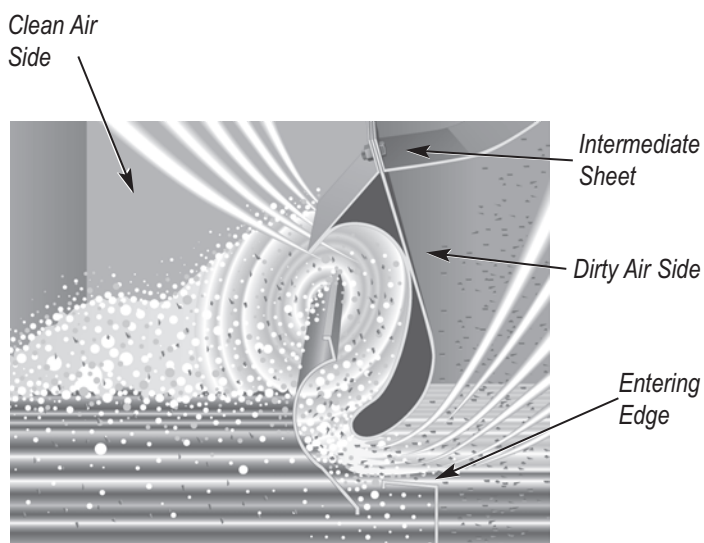

Figure 1. Cross section of Type N RotoClone Impeller.
Type N RotoClone cleans the air by the combined action of centrifugal force and a thorough intermixing of water and dust-laden air. The dust is separated from the air by means of a water curtain, created by the flow of air through a partially submerged stationary impeller (see Figure 1). Air flowing through the impeller at a high velocity conveys water with it in a very turbulent sheet. Additional water is introduced at the narrowest portion of the impeller opening through a specially designed slot in the bottom. Since there is a certain pressure drop through the impeller, the water flows upward through the slot in an attempt to reach the water level on the clean air side. This water flow upward through the slot creates increased interaction between the dust and water, thus, increased collection efficiency. Since the water flows upward in an attempt to reach the level on the clean air side of
the impeller, the impeller opening can be decreased (resulting in higher pressure drop and collection efficiency) by raising the water level in the unit. This is accomplished by means of an exclusive and patented variable water level control box. The centrifugal force exerted by rapid changes in direction of airflow causes the dust particles to penetrate the water film and become permanently trapped (Figure 1).
NOTE: This level can be checked by filling the unit with water until the level reaches the entering edge (Figure 1) of the impeller. This entering edge should be level with the water along its entire length with maximum variation of 1/8" plus or minus (see item 4.1, Operating Instructions).
- b. Set cleaning section in place so its bolting flange matches hopper flange. Lower carefully watching for interference between intermediate sheets and impellers. Walls of interior center section, formed by the two intermediate sheets must be inside impeller bolting surface (Figures 1 and 3).
- d. Impellers are bolted to intermediate sheets. Before tightening, entering edge (Figure 1) of impellers must be in a straight line. Impellers were aligned at the factory and each impeller section matched drilled with holes in intermediate sheet. Check alignment before tightening the remaining bolts in the slotted holes in impellers and drilled holes in intermediate sheets.